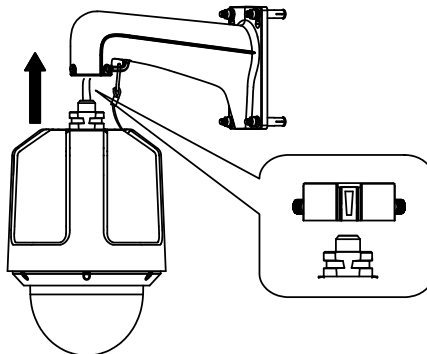

Figure 2-4 Install the Speed Dome
- 4) Align the speed dome with the bracket as shown in Figure 2-4, and rotate the speed dome clockwise tightly.